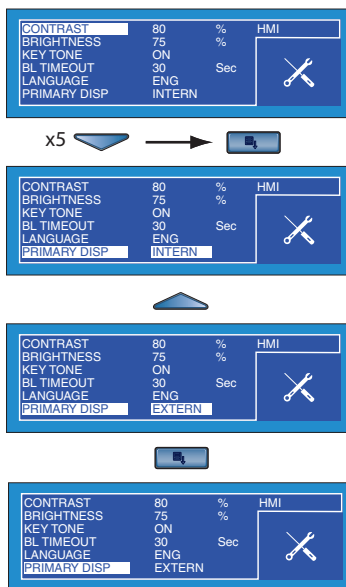

Figure 2.13 - Display settings
2.6.6 Display Settings (Figure 2.13)
To enter the display menu, highlight HMI from the main menu by using a combination of the ▲ (up) and ▼ (down) scroll keys and press the Enter key. The HMI set-up menu, is then displayed, See Figure 2.13.
Figure 2.13 shows a display set-up screen and the method of changing the primary display to show the output of either the internal sensor (INTERN) or the external (EXTERN) transmitter.